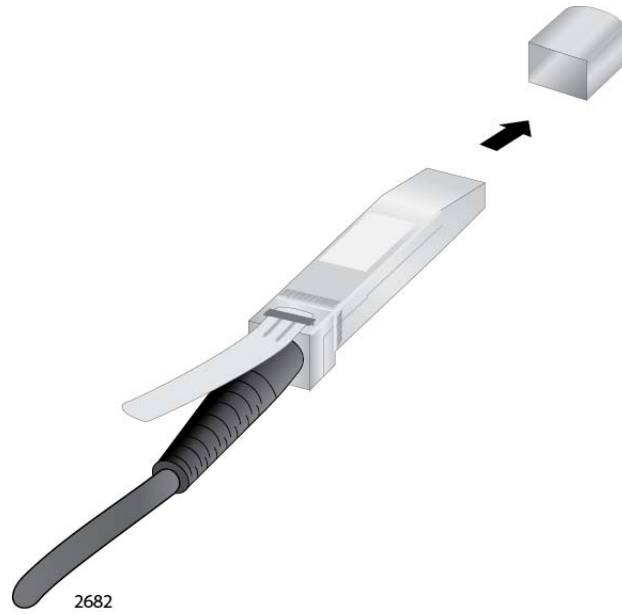

Figure 38. Removing the Dust Cover from the AT-StackXS/1.0 Transceiver
3. Remove the dust cap from one end of the transceiver, as shown in Figure 38 on page 85.